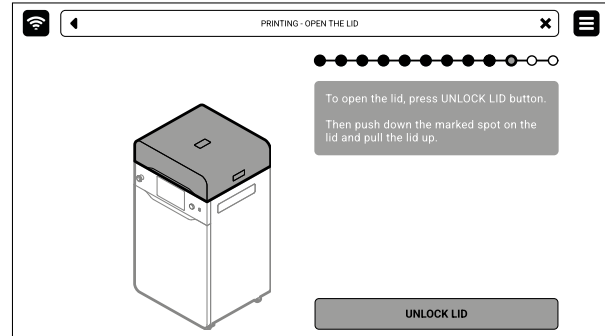

Fig. 6.3 Releasing the electrolock.
1. Slide the **UNLOCK LID** button to release the electrolock and allow the print chamber to be opened (fig. 6.3).